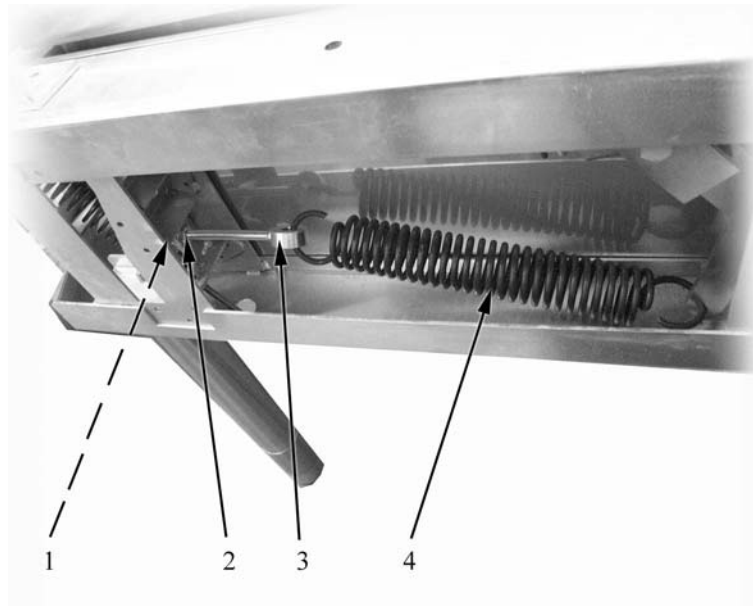

Fig. 24
- loosen the fixing nut and lock nut (item 2 and item 1 in Fig. 24) of the spring tie (item 3 in Fig. 24) ;